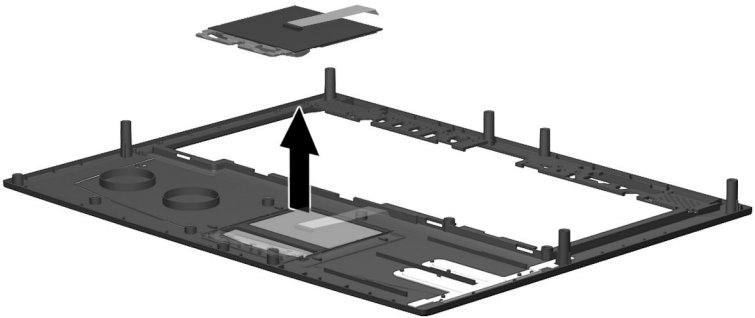

Figure 5-19: Removing the TouchPad
5. Remove the TouchPad board and cable from the top cover (Figure 5-19).